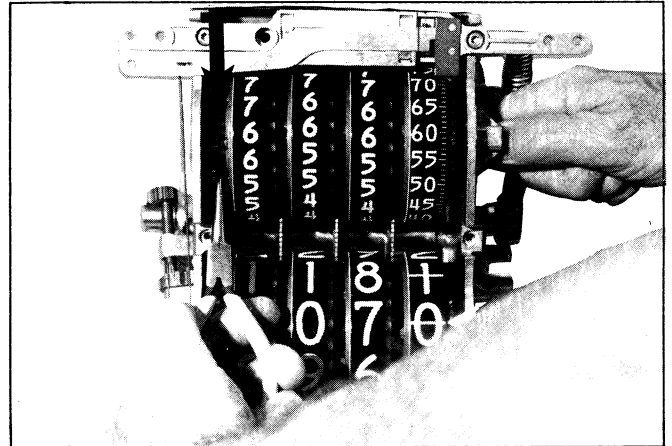

Figure 28. Installing end-play washer (as required) on left side.
- d. Shim washers are then inserted on **left-hand** side between reset disc and frame using same method as above, Figure 28.